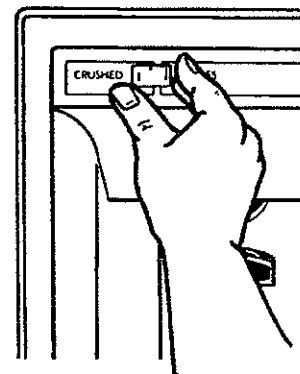

Figure 80
- Select CUBE or CRUSHED mode by sliding lever on front dispenser panel to chosen setting. See Figure 80.